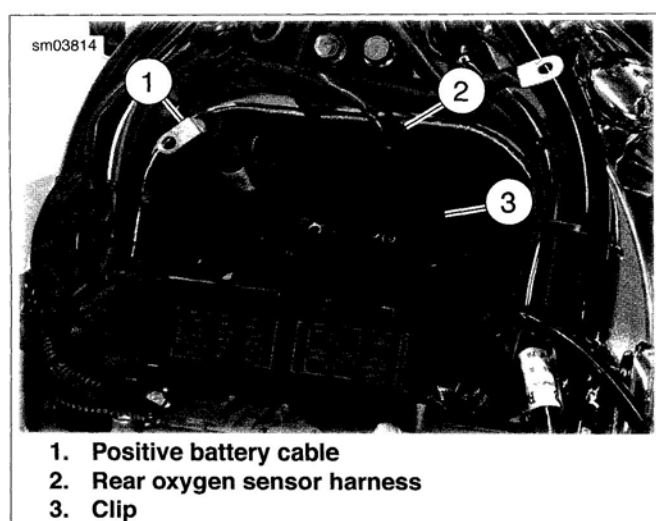

Figure 1-64. Battery Caddy Wire Routing
4. See Figure 1-64. Install positive battery cable (1) into clip in caddy. Place an S-shaped bend in the positive battery cable at the starter end of the cable. This will help properly position the terminal end for battery installation.
5. Route rear oxygen sensor harness (2) through clip (3).